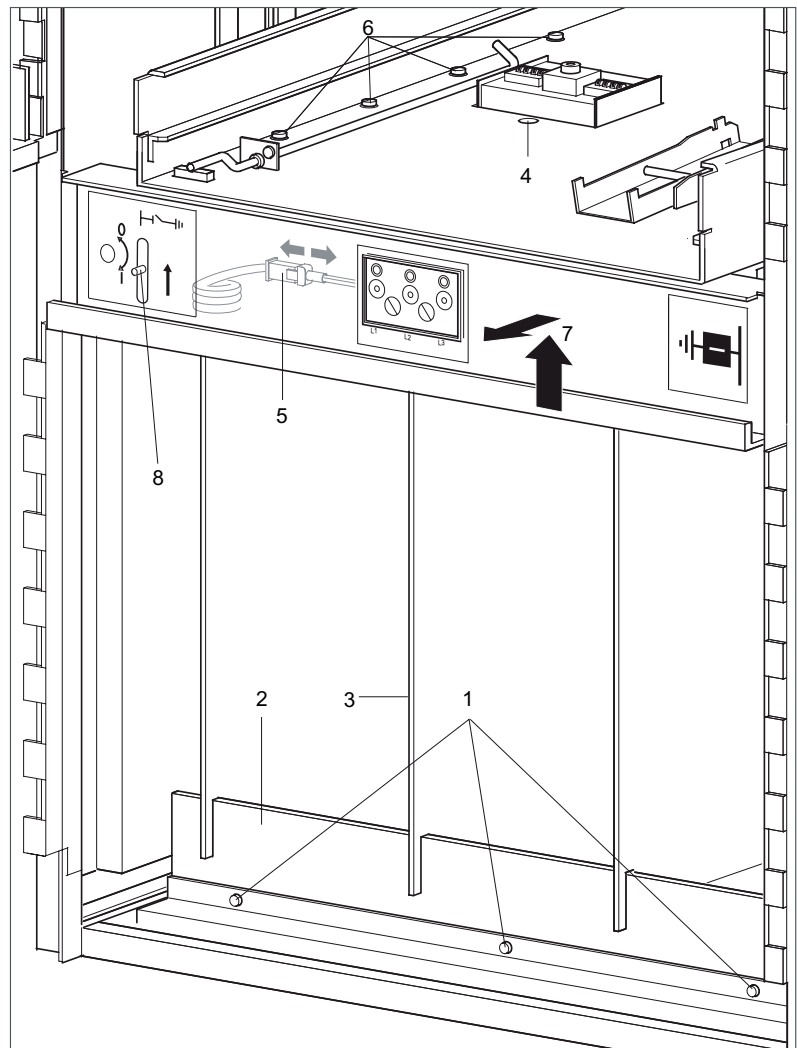

Fig. 4.2
- Release the 3 securing bolts (Fig. 4.2, 1) of the support (2).
- First remove support (2) and then the four insulating walls (3).
- Dismantle auxiliary switch block for truck (4) and deposit carefully in the cable compartment.
- If the panel features a voltage indicator: disconnect the plug-and-socket connector of the unit (5).
- Remove the securing bolts of the truck carrier (6).
- First raise truck carrier on the front, then pull it out (7).
Re-install truck carrier and dismantled components by reversing the above order. When screwing the truck carrier down, make sure that the slide (Fig. 4.2, item 8) to open the insertion opening for the earthing switch operates smoothly. If necessary, release bolts and reposition the truck carrier.